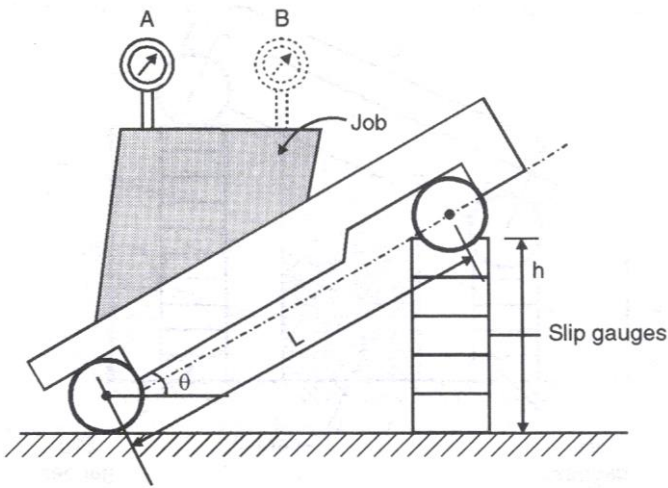

Fig. 11.4.4
- For a small component, the component or workpiece can be placed over a sine bar as shown in Fig. 11.4.4.